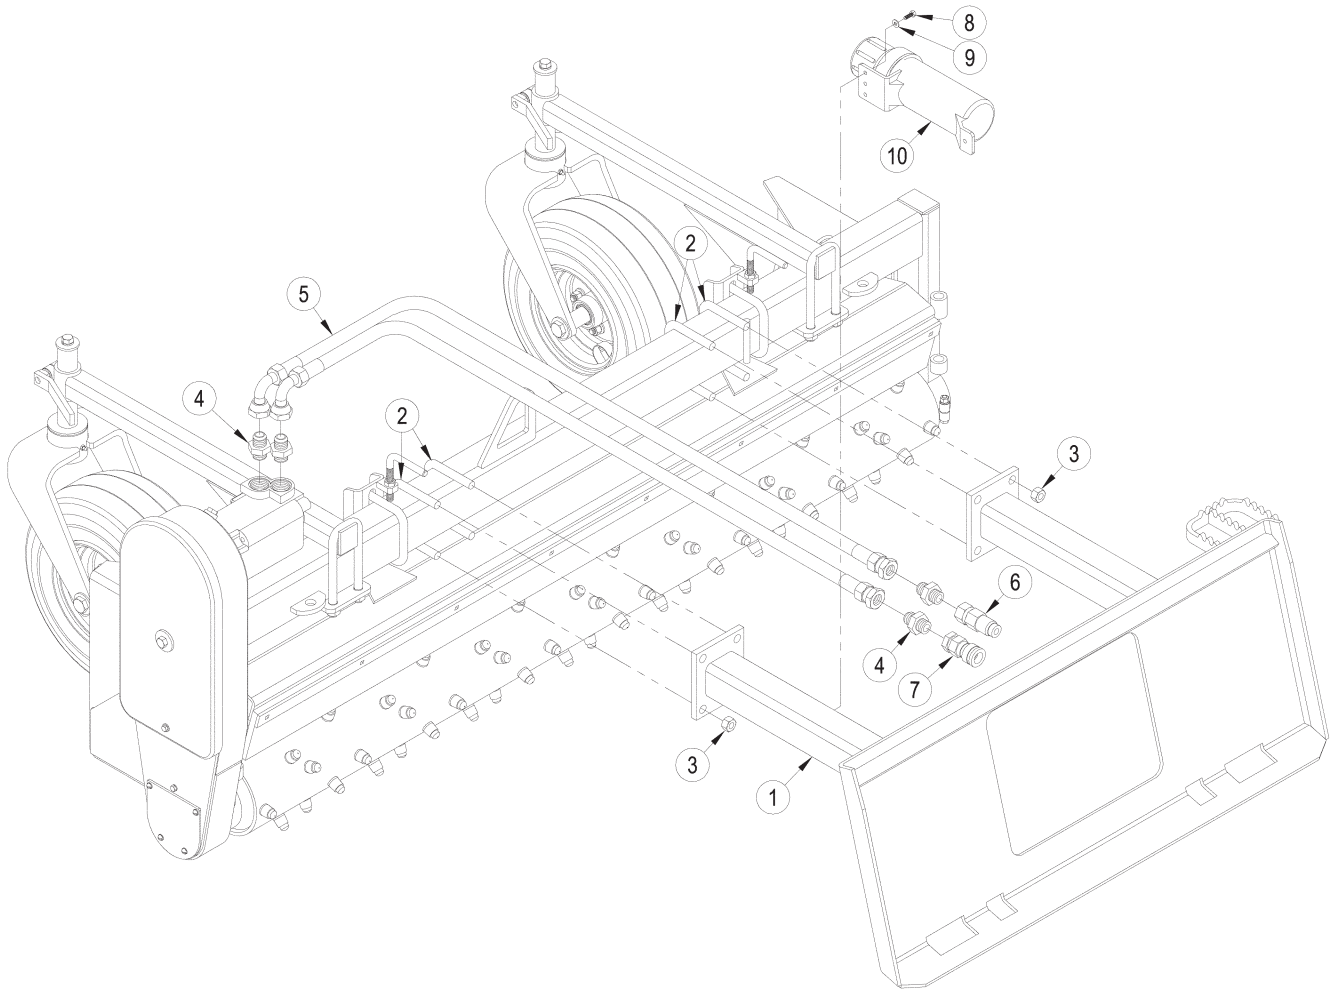

Figure 10. Straight Model Assembly
STRAIGHT MODEL ASSEMBLY PROCEDURE (See Figure 10)
2. Attach the two gauge wheel assemblies to main frame using two 5/8" U-bolts and locking nuts as shown in **Figure 10 (page 28)** and **Figure 15 (page 40)**.